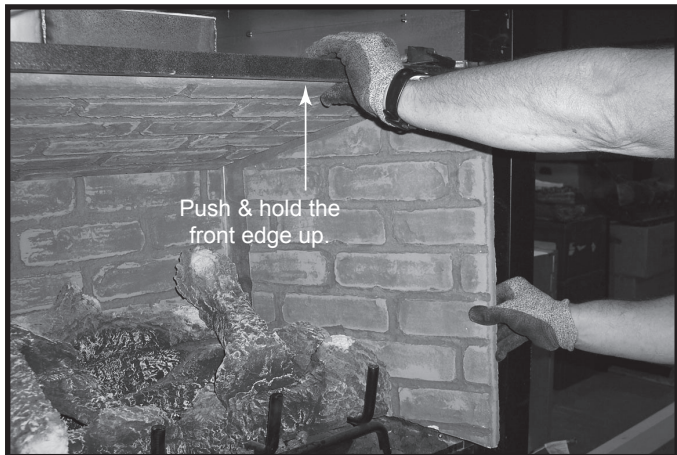

Figure 4.14 Remove One Side Refractory
1. Remove the right or left side refractory (only one side must be removed) by gently raising the front of the top refractory and lifting the side piece up slightly and pulling out. See Figure 4.14.